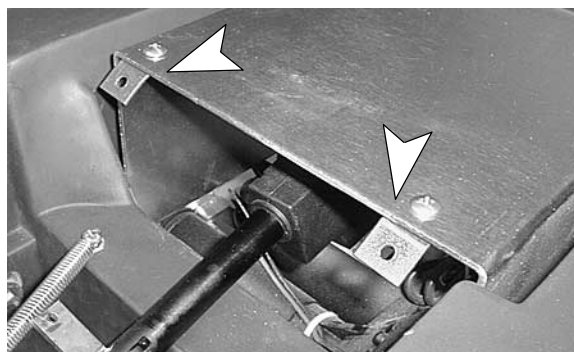

FIG. 4
6. Install spring mount brackets in positions shown using enclosed hardware (Figure 4).